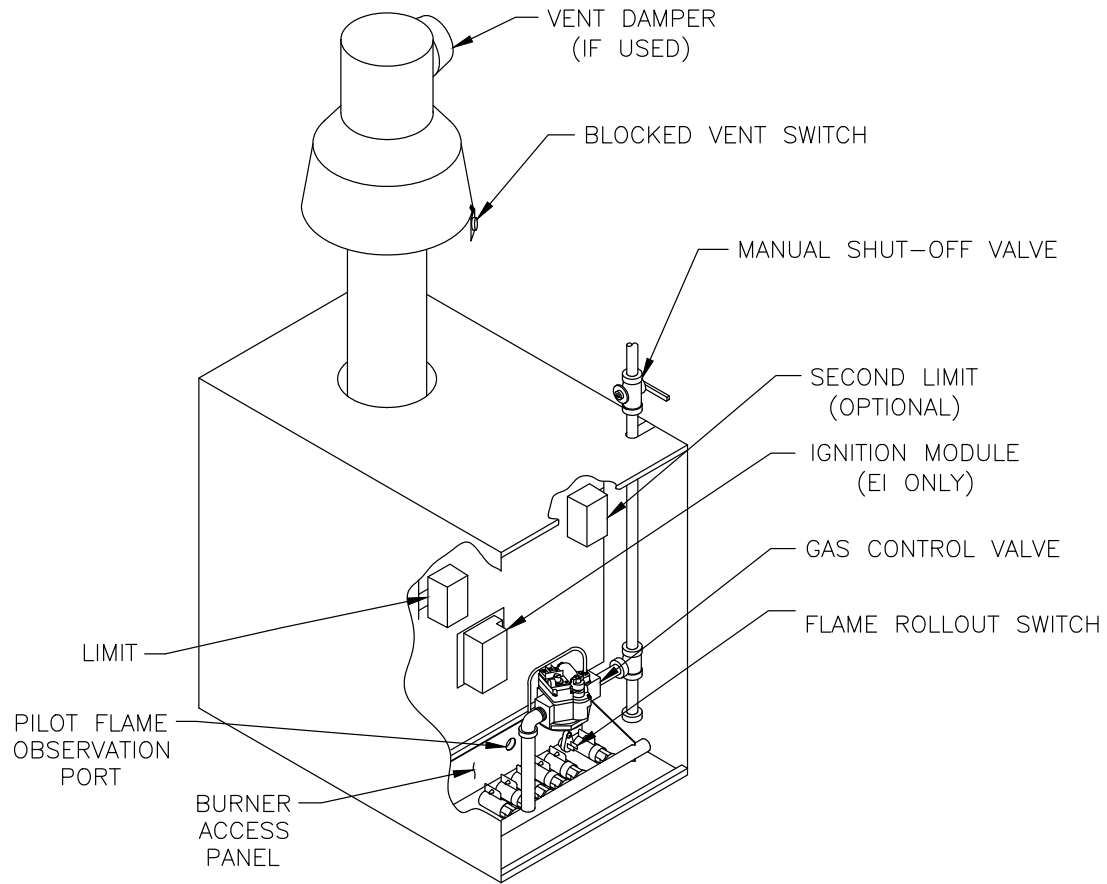

Figure 1: Control Locations (24V Control Systems)
1. **Limit** See Figure 1. A device which automatically interrupts boiler operation when the water temperature exceeds the set point. Maximum allowable boiler water temperature is 250°F. Switch differential is 30°F.
2. **Blocked Vent Switch** See Figure 1. A device which automatically interrupts boiler operation when excessive vent system blockage occurs. If the control was activated to interrupt boiler operation, do not attempt to place boiler in operation. Contact a qualified service agency.
3. **Flame Rollout Switch** See Figure 1. A device which automatically interrupts boiler operation when flames or excessive heat are present in the vestibule. The control is a single use device. If the control was activated to interrupt boiler operation, do not attempt to place boiler in operation. Contact a qualified service agency.
4. **24-Volt Continuous Ignition System (Standing Pilot)**. See Figure 1. The Continuous Ignition System consists of:
5. **24-Volt Intermittent Ignition System (EI)**. See Figure 1. The Electronic Ignition System consists of: